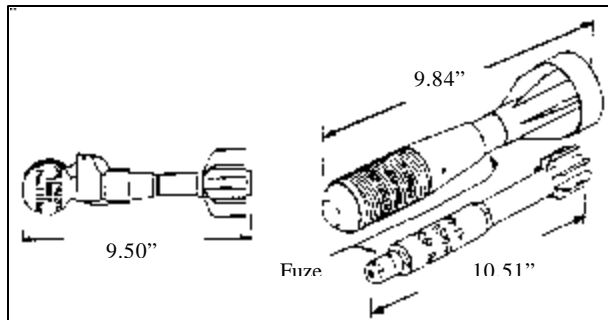
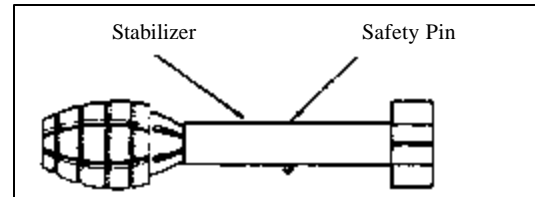

Figure 55. U.S. M17 Frag rifle grenades.
Figure 56. APERS rifle
- (4) The APERS frag grenade is similar to the frag hand grenade, but has a fin assembly, as shown in Figure 55 and Figure 56.